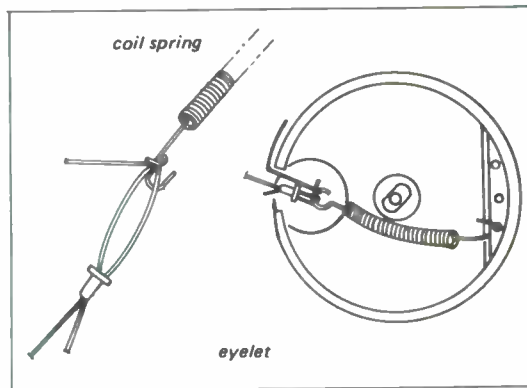

Fig. 2-17 Finish point detail
4. At the finish, tighten the cord, then squeeze the eyelet so that the spring is under tension. See Fig. 2-17. Make a knot in the cord end to keep it from slipping out of the eyelet.
- At the finish, tighten the cord, then squeeze the eyelet so that the spring is under tension. See Fig. 2-17. Make a knot in the cord end to keep it from slipping out of the eyelet.